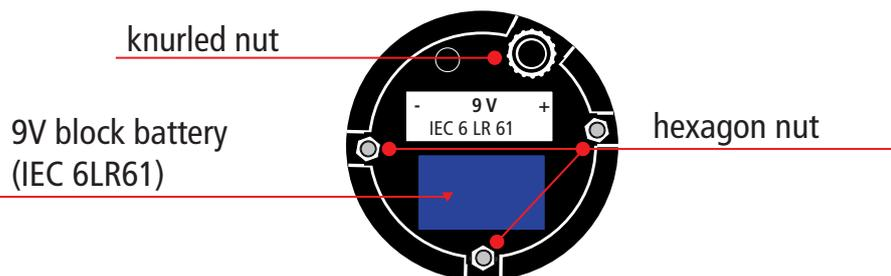

Fig. 5.1 Lower end of the electronic element
- 5.4 Before reassembling the indicator, check the hexagon nuts and the knurled nut screwed to the electronic element for tight fit. If nuts (hexagon and the knurled nuts) are loose or missing, withdraw the voltage detector (indicator) from service and send it to DEHN + SOEHNE for repair (see Fig. 5.1)!